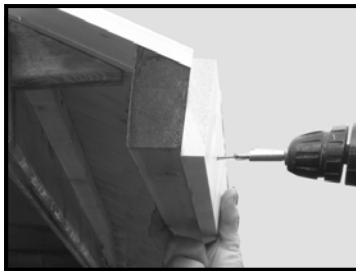

Fig G6
9. Fit the 19x70mm eaves edgings onto the roof edgings. Place a floor board on top of and over the edge of the roof as a guide and place the top of the roof edging level with this (fig G6) and fix with 40mm screws at 400mm spacing's.